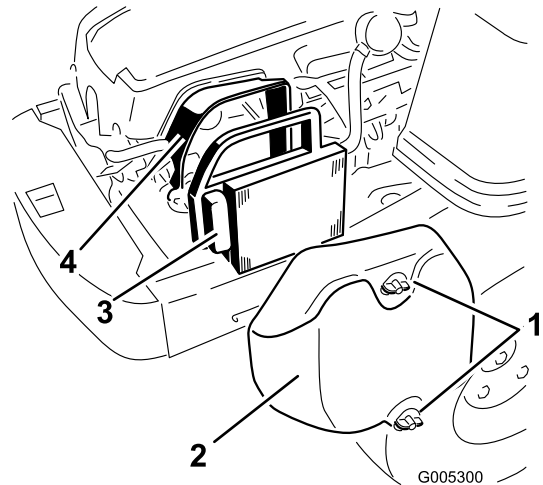

Figure 28
1. Remove the air cleaner cover (Figure 28).
2. Remove the air cleaner element with the integral rubber seal (Figure 28).
5. Install the air cleaner element with the pleated side “out” and seat the rubber seal onto the edges of the air cleaner base (Figure 28).
6. Reinstall the air cleaner cover and secure with the two knobs (Figure 28).